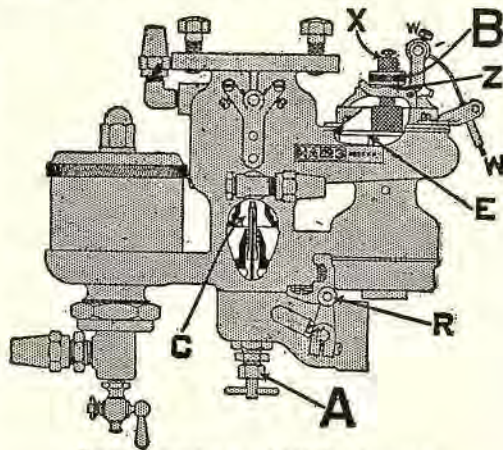

Fig. 3. Stromberg model "H" carburetor.
For low speeds the gasoline is taken from the spray nozzle (C), in a venturi tube, through which hot air passes. Regulation of amount of gasoline is by needle valve (A) (Figs. 3 and 4).